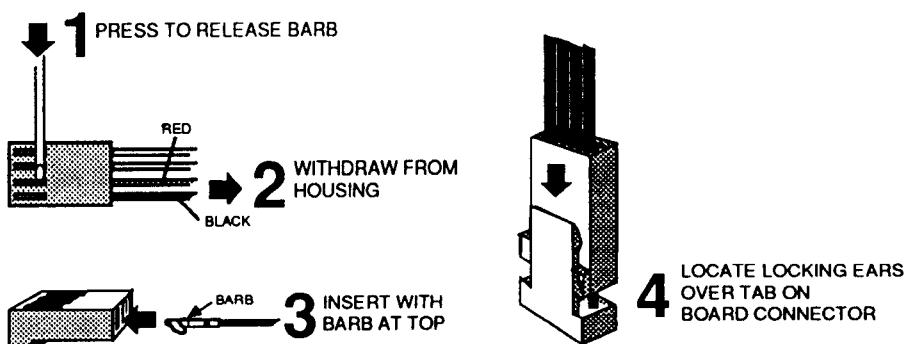

Fig. 7 : Removing/inserting LED wires in the LED/speaker connector
- 11 Using a small electrical screwdriver or similar, depress the barbs on the LED wire contacts in the LED/speaker connector (red and black wires) and withdraw the contacts from the connector, noting the polarity of the LED wires (see Fig. 7, steps 1 and 2). Place the old front sub-moulding to one side.
13 Insert the LED wire contacts into the LED/speaker connector so that the barbs on the contacts engage in the slots in the connector housing (see Fig. 7, step 3). Observe correct polarity – make sure that the red and black wires are the correct way round, as shown in Fig. 7, step 2.
20 Plug the LED/speaker connector to PL9 on the main board, ensuring that the locking ears on the connector locate either side of the locking tab on the board-mounted connector (see Fig. 7, step 4).